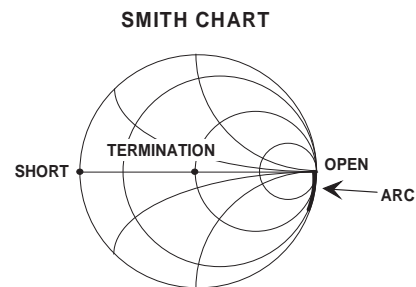

Figure 8-6. *Smith Chart Display 2*
3. *Connect the Open:* An Open appears as an arc on the chart's right edge. This is due to the fringing capacitance of the Open standard (Figure 8-6).